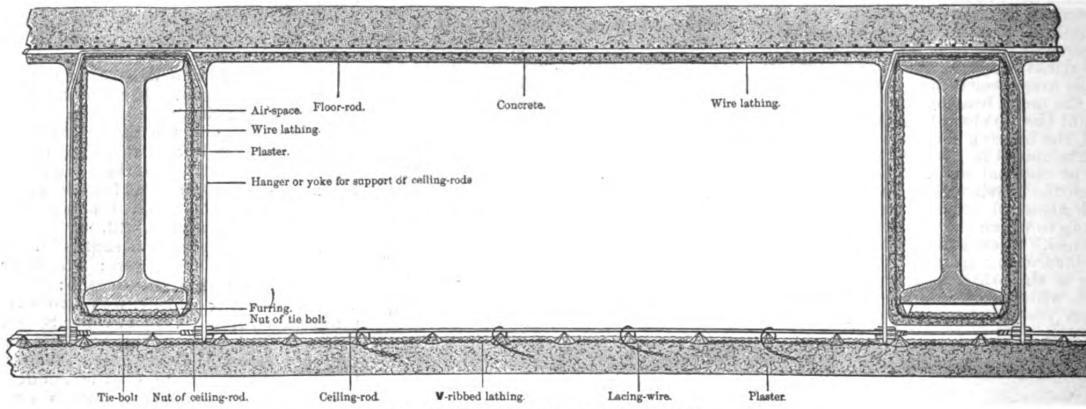
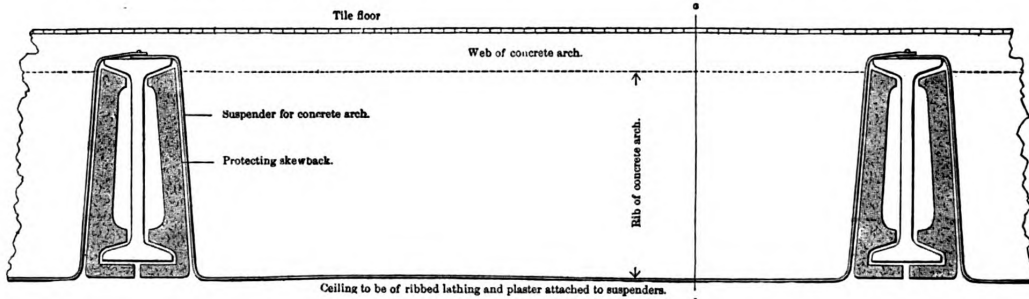

Fig. 11.—Floor and Ceiling Construction.
Fig. 14.—I-Beams Protected by Skewbacks.
Three slabs recently constructed, as shown in Fig. 11, were tested to find their carrying capacity. The I-beams were 6 feet on center, and the concrete 2 feet wide by 3 inches thick at center, and 2 inches thick over the beams, making an
**I**N Fig. 11 is shown a floor and ceiling construction suitable for all classes of buildings, from those requiring only efficient protection against fire to those not only requiring protection, but great
In Fig. 11 is also shown a method for the protection of the iron beams. They are covered with wire lathing, which is drawn around them and laced together at the top of the beams. At the bottom of the beams is an offset by ribs of thin steel, which gives the mortar a chance to clinch around the wires, and also leaves an air space between the mortar and the beam. This gives a very efficient protection, as mortar clinched through the meshes of wire lathing will not burn or fall off and an air space is left around the beam where the greatest protection is required. A very heavy coat of mortar will be held safely by the wire lathing.
The system shown in Fig. 11 is also applicable to mill construction. The wood beams can be incased in the wire lathing, which will be offset from the beams at the sides in a manner similar to the offset at the bottom. This will leave an air space around the beams and avoid the very serious risk of dry rot, which would be apt to take place were the beams closely imbedded in the plaster.
Fig. 14 shows the I-beams protected by skewbacks, the suspenders for the floor and ceiling passing over the beams and skewbacks, the concrete arch resting on the suspenders and a tile floor laid on the concrete. The ceiling lathing is the same as in Fig. 11, and applied in the same manner.